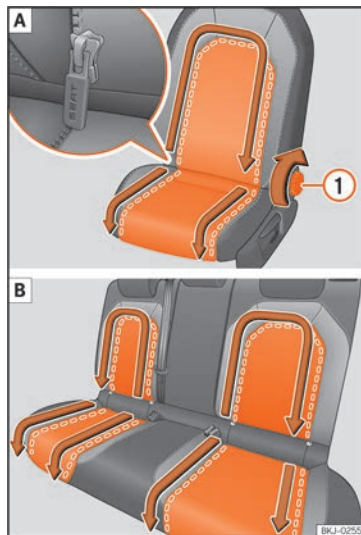

Fig. 113 Remove the covers. **A** Left front seat; **B** Rear seats
- Move the seat backwards until the handle of the zip is completely accessible »» Fig. 113 ①).
- Move the handle of the zip in the direction indicated by the arrow »» Fig. 113. The removable cover is released.
- Move the handle of the zip against the direction indicated by the arrow »» Fig. 113.